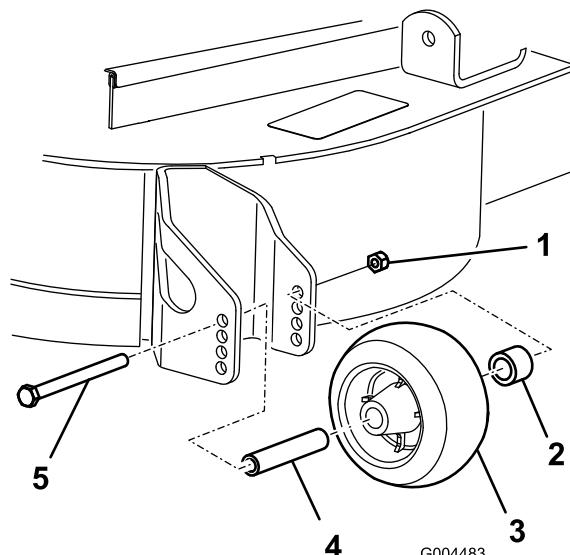

Figure 24
3. After adjusting the height-of-cut, adjust the rollers by removing the flange nut, bushing, spacer, and bolt (Figure 24).
5. Install the flange nut, bushing, spacer, and bolt. Torque to 40-45 ft-lb (54-61 N·m) (Figure 24).